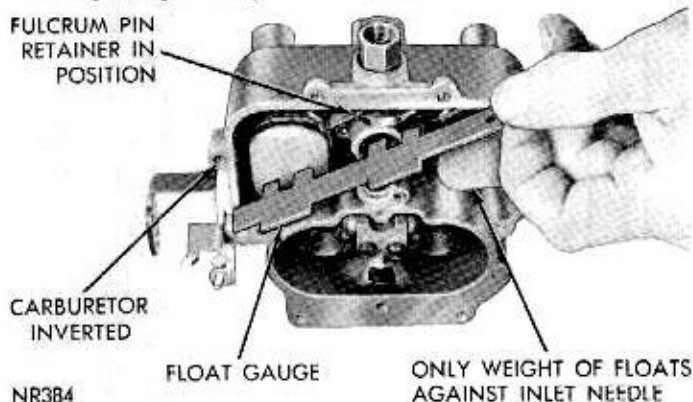

Fig. 10—Checking Float Setting
(1) To correctly set float height when carburetor is being overhauled, install floats with fulcrum pin and pin retainer in main body.
(2) Install rubber-tipped needle, seat and gasket in body and tighten securely.
(3) Invert main body so that weight of float only is forcing needle against seat. Hold finger against retainer to fully seat fulcrum pin.
(4) Using Tool T-109-280 or a "T" scale, measure float, (Fig. 10). There should be 5/16 inch from surface of fuel bowl to crown of each float at center.